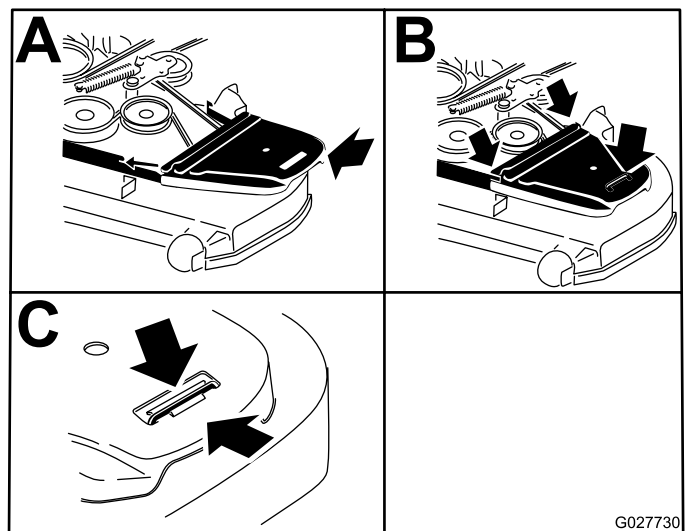

Figure 78
12. Install the belt covers (Figure 78).